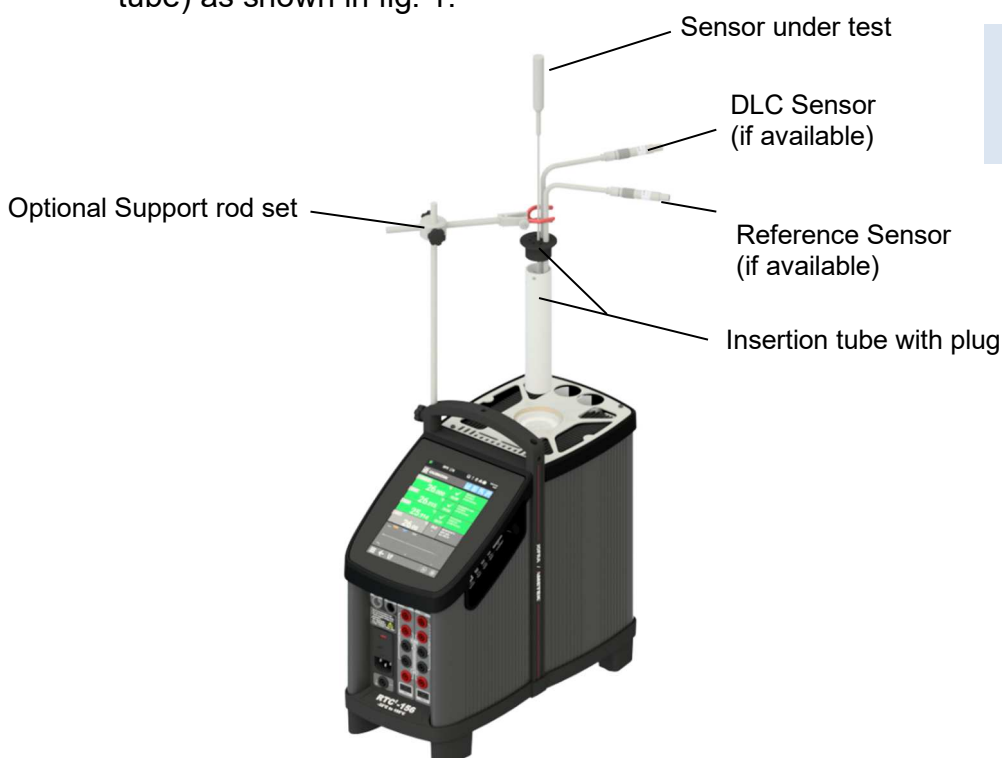
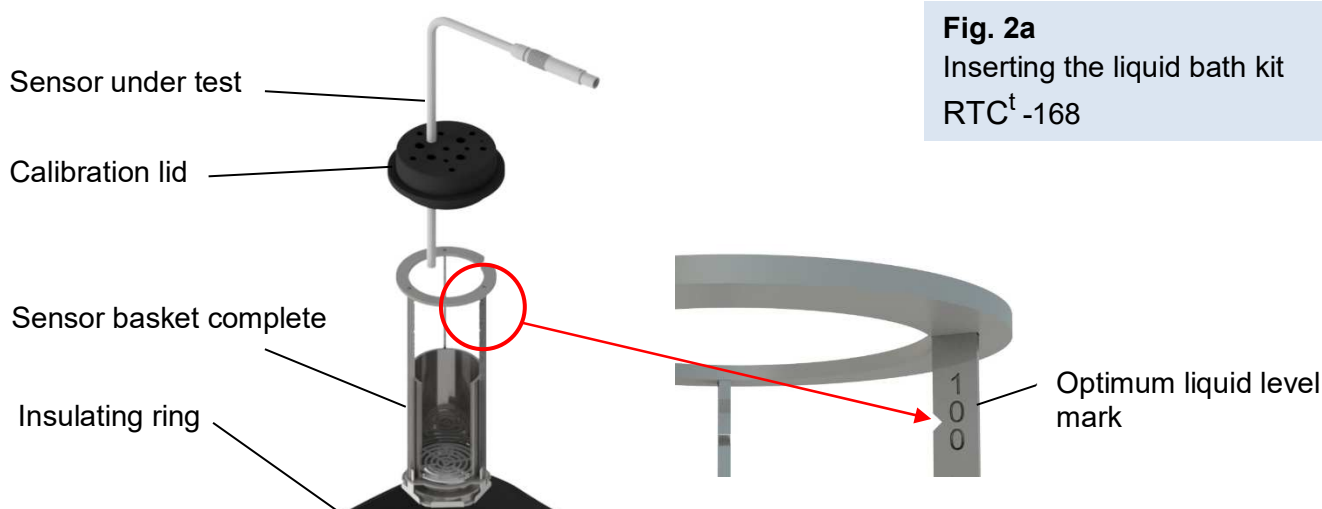

Fig. 1
Fig. 2a
3. Check that the fuse size corresponds to the applied voltage on (pos. ③). The fuse is contained in the power control switch (on/off switch). To check; follow the procedure in the RTC^t Reference manual, 130787 section 3.1.1.
5. Select an insertion tube with the correct bore diameter matching the sensor to be calibrated. Ensure that both the well and the insertion tube are clean. Insert the tube into the well as shown in fig 1.
6. Place the sensor under test and the reference/DLC sensors (if available in the insertion tube) as shown in fig. 1.
5. Place the parts from the liquid bath kit in the well in the following order (see Fig 2a):
The sensor basket is marked with an optimum liquid level mark (100%). When filling the well with liquid and placing the sensors, this mark must **never** be exceeded (see Fig 2a)
7. Place the calibration lid (see fig. 2a) onto the well. Holes with a boring diameter matching the sensors to be calibrated must be drilled into the lid before using it.
10. Place the sensor (see fig. 2a) and the reference sensor (if available) to be calibrated vertically into the well. It is recommended to use the optional support rod set for a correct position during calibration (see fig. 1).